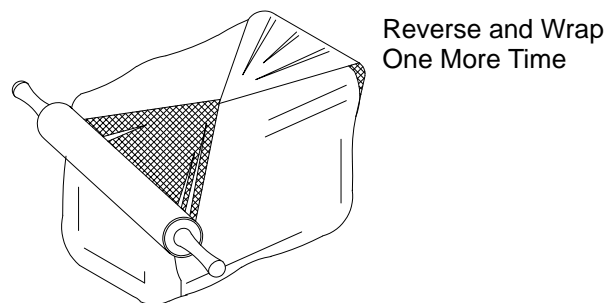

Figure 14. Twist in Film
4. Start another wrap and reverse twist the film so that the *white* side is facing the product, then continue to wrap the item until it completely covered (figure 14).